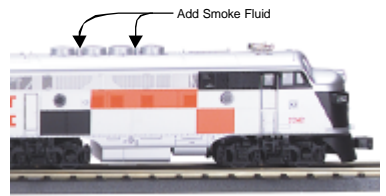

Figure 3. Add Smoke through the Smokestacks
2. Prime the operating smoke unit with smoke fluid before operating. Add 15-20 drops of smoke fluid through the front smokestack (see Fig. 3 on pg. 10), then gently blow into the stack to eliminate any air bubbles in the fluid.
When preparing to run this engine, add 15-20 drops of smoke fluid through the front smokestack (see Fig. 3). We recommend M.T.H. ProtoSmoke, Seuthe, LGB, or LVTS fluids. Do not overfill the unit or the fluid may leak out and coat the interior engine components.